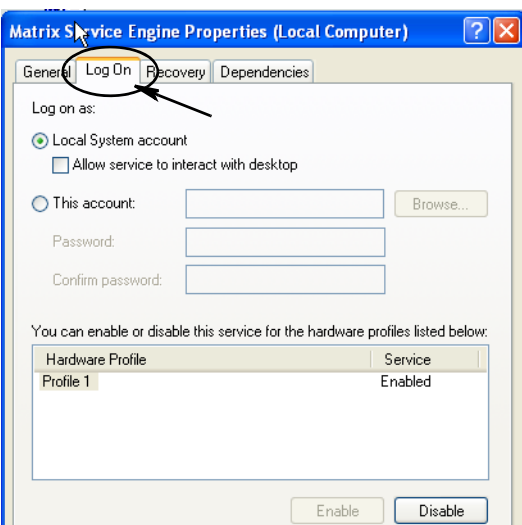

FIG. 57
- e. Select the Log On tab (FIG. 57).